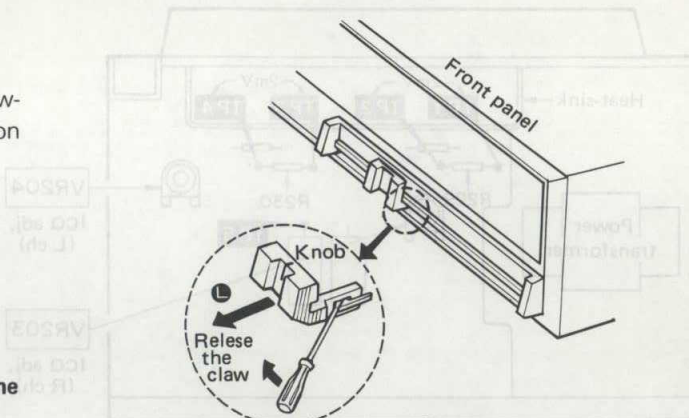

Fig. 6
1. Release the 2 claws at the volume knob by a screwdriver, and remove the volume knob in the direction of the arrow ④ (Fig. 6).